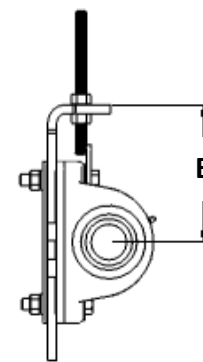

Figure 7-17: Apron/Paddle Shaft Chain Tension
7. Tighten the shaft mounting bolts and the jam nuts on the adjusting bolts. Set the same dimension (B), shown in Figure 7-17, on both sides and secure the mounting fasteners in position. On wide-frame harvesters, set the same dimension (B) on the center mount as on the outer mounts.